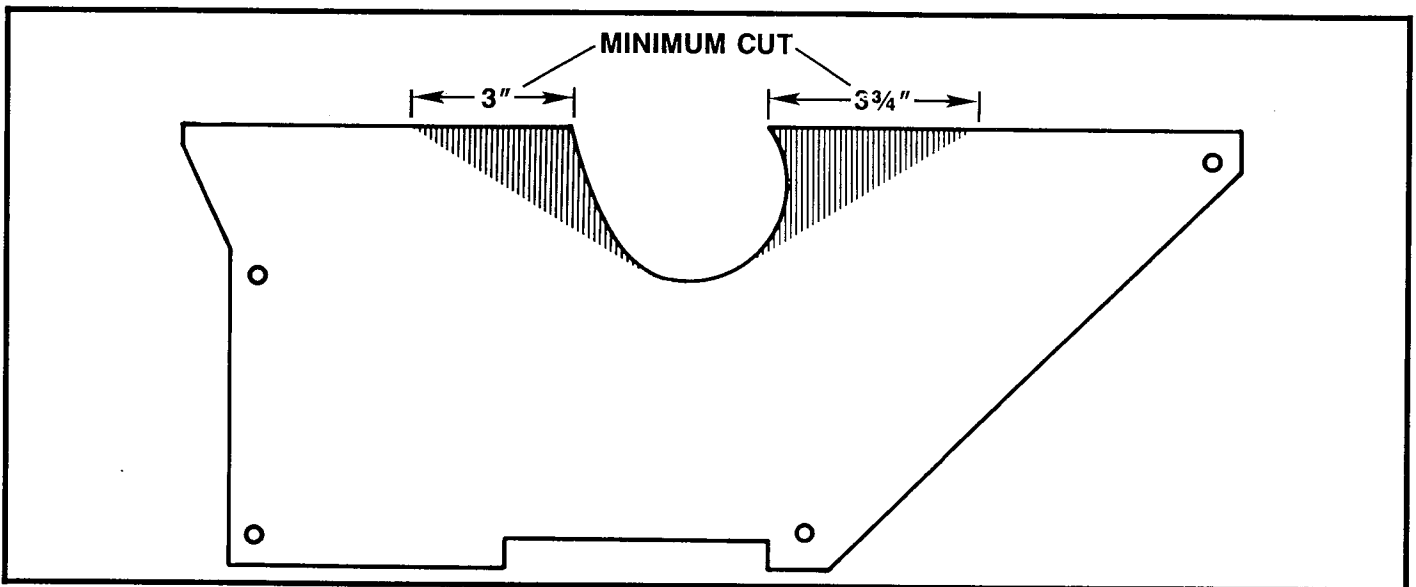

Fig. 2
5. Place the side plate cover on a flat surface and mark the area as indicated in Fig. 2, where the modifications to the cover must be made. The shaded area of the drawing Fig. 2, indicates the minimum amount of material that must be removed from the cover to allow the use of dado blades.